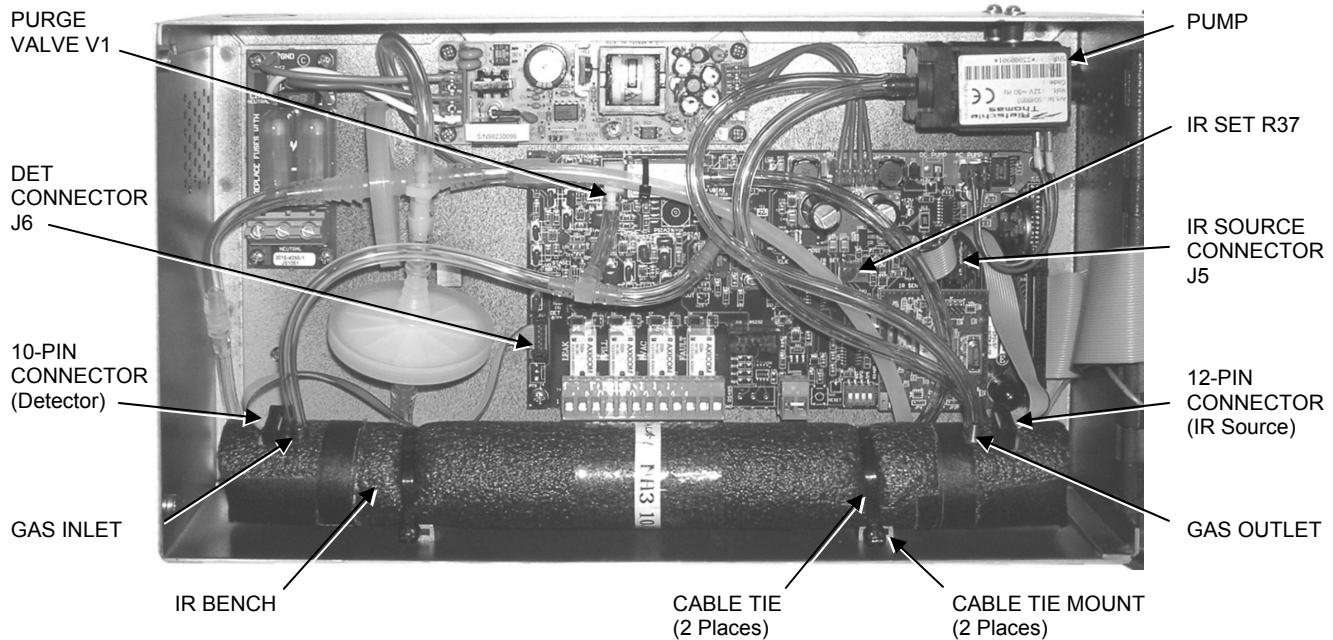

Figure 2. AGMSZ Components
3. Take time to familiarize yourself with the internal components of the AGMSZ shown in Figure 2.
4. Refer to Figure 2 and perform the following to remove the old IR bench:
- b. While observing the IR VOLT reading, use a small blade screwdriver to adjust IR SET potentiometer R37 (see Figure 2) for a reading of 4.200 ±0.100 volts.